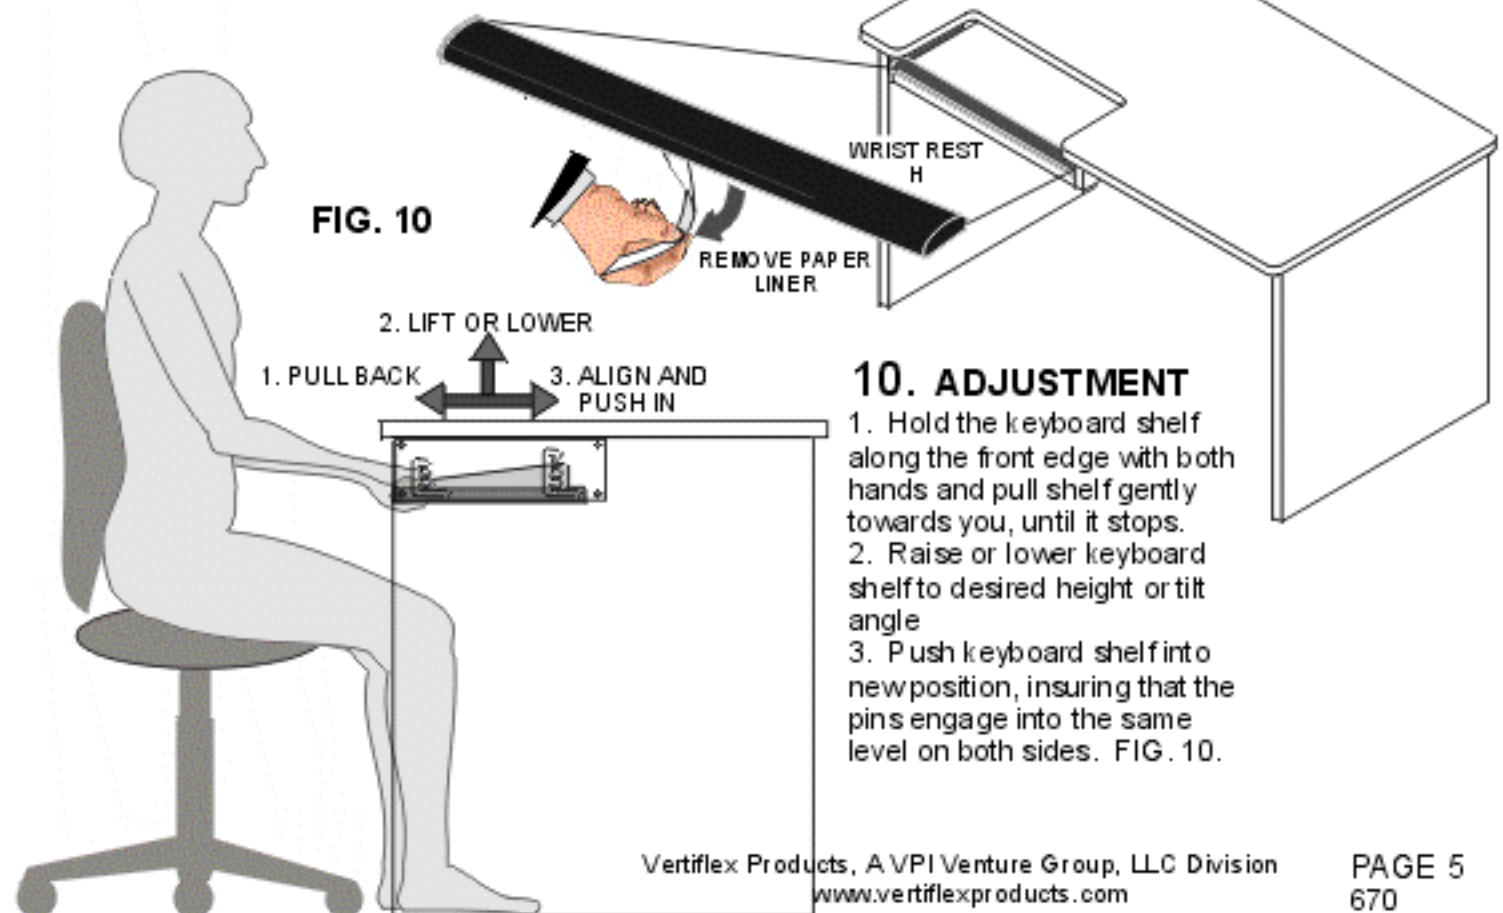

FIG. 9
Remove paper liner from adhesive strip on the back of WRIST REST (H). FIG. 9 Carefully align WRIST REST along front edge of PULL-OUT SHELF which will be used as KEYBOARD SHELF - centering it from side to side. Press WRIST REST onto shelf to secure.